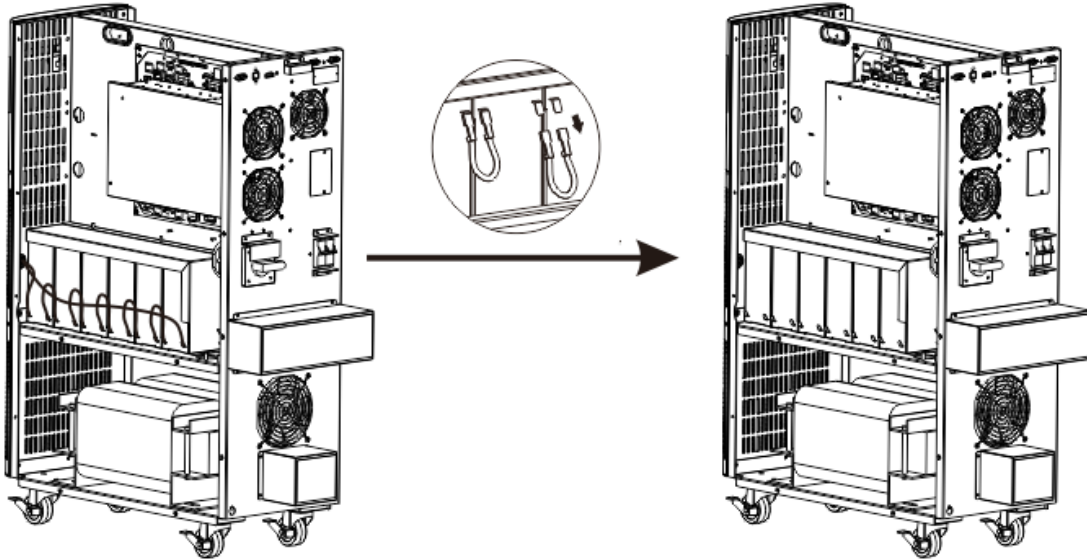

FIG. 3
- 13. Disconnect all of the battery jumper wires on the left hand side (**FIG. 3**).